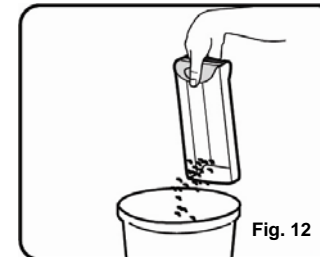

Fig. 12
2. Empty dust container contents. (Fig. 12) If desired, you may rinse the container with water to clean the dust container - but dry thoroughly before replacing on the sweeper.